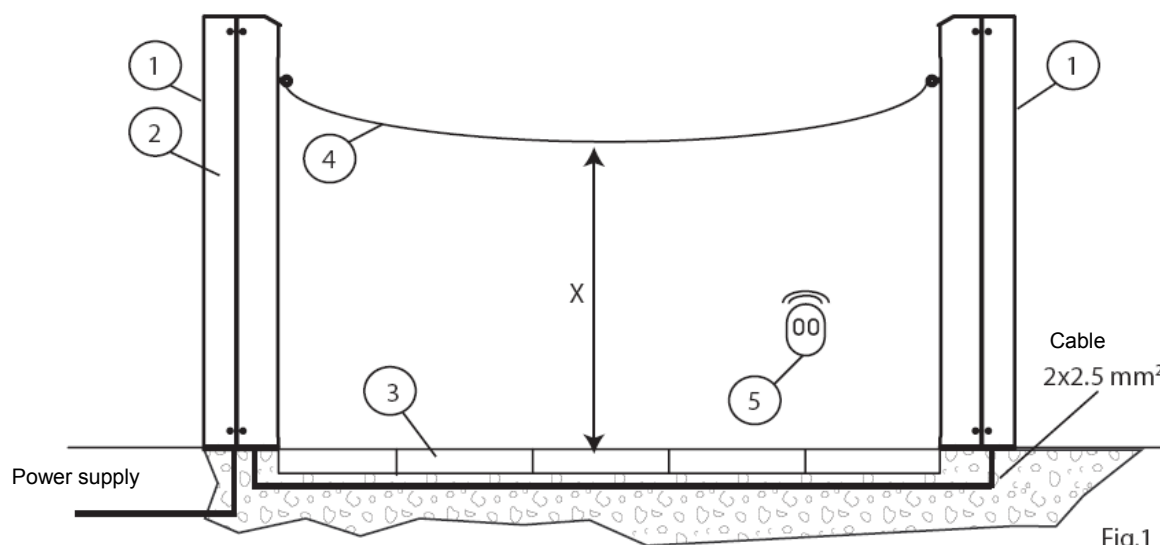
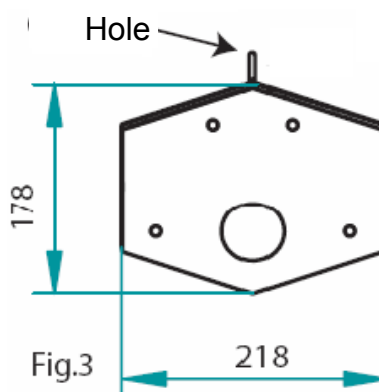
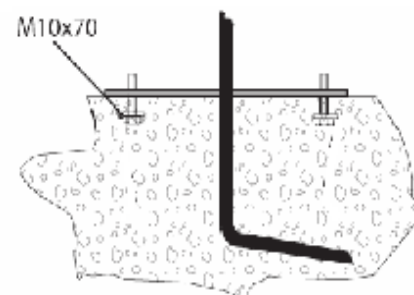

Fig.1
Fig.3
Fig.4
3.2. Installation of the column (Fig. 1, Fig. 3, Fig. 4)
2. Place than the base on the previously prepared base of cement (Fig.3)
5. Unscrewing the 8 screws [10] take off the frontal [8] and the rear cover [9] of the column (Fig. 4)